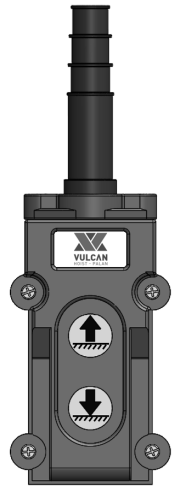

Figure 4 - 2
- 4.4.2** Single Speed Pendant Control – When using the pendant control depress the UP button to raise the hoist load chain/hook or the DOWN button to lower the hoist load chain/hook as shown in Figure 4 - 2. To stop motion release the buttons.
- 4.4.3** Dual Speed Control – Pendant controls supplied with dual speed hoists have two step control buttons. For low speed depress the button to the first step and for high speed, depress the button fully to the second step. Use the UP button to raise the hoist load chain/hook or the DOWN button to lower the hoist load chain/hook as shown in Figure 4 - 2. To stop motion, release the buttons.